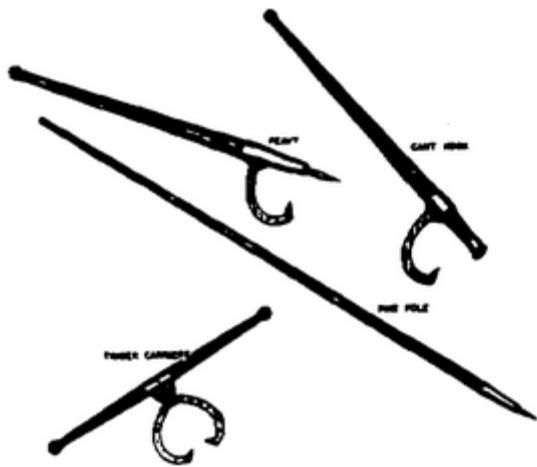
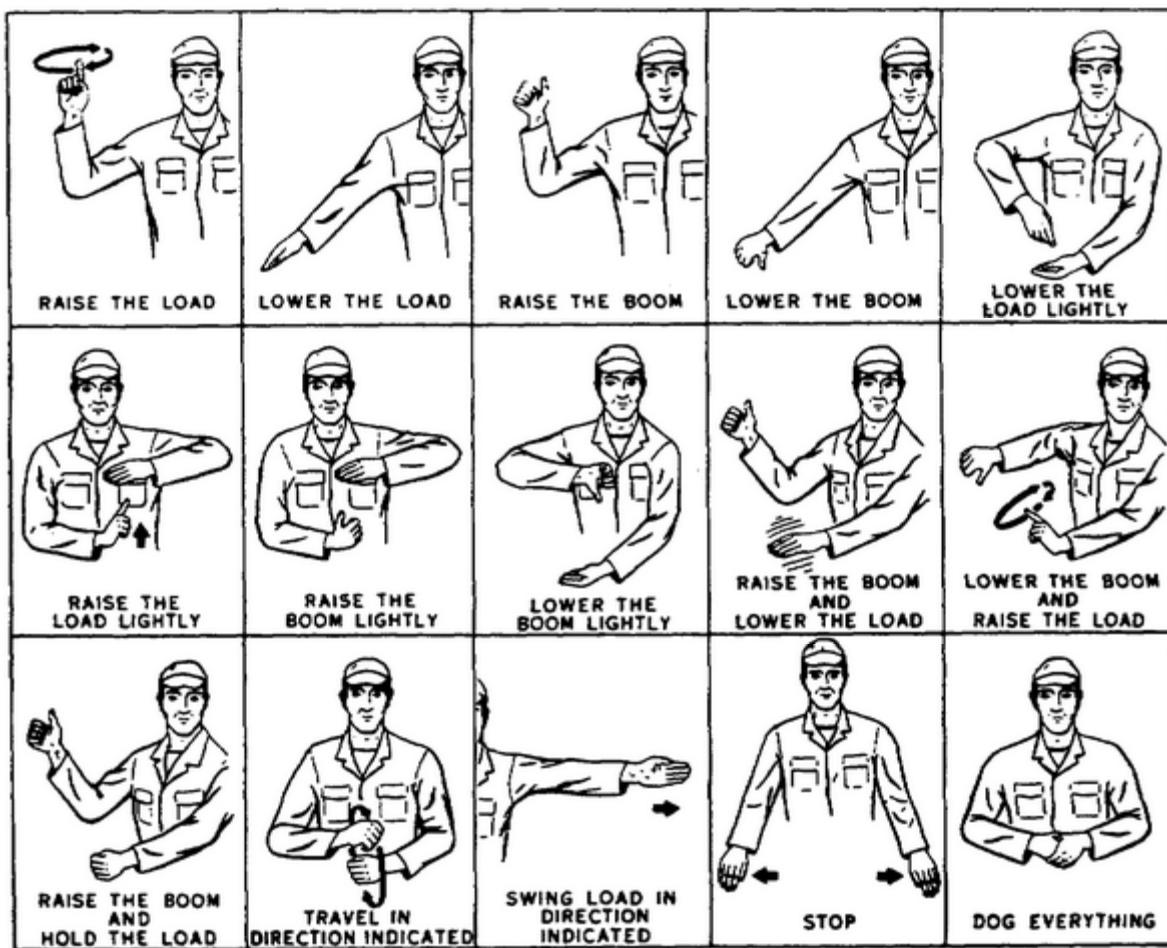

Figure 47. Logger's tools.
Figure 48. Standard crane signals.
**8-19. Special Tools Needed.** Since you cannot manhandle all of the heavy timbers you will be using to build waterfront structures, special tools are used to move and place these timbers. They are known as logger's tools and consist of peavys, cant hooks, timber carriers, and pike poles. The peavy and cant hook are lever type tools and are primarily used to roll timbers. Timber carriers are considered two-man tools; they are primarily used to pick up and/or carry timbers. Pike pole are used to hold or steady timbers while they are being placed. These tools are shown in figure 47. Although the cane cannot be considered a special tool, we include it here because it is used to raise and lower heavy timbers, such as are used in the building of waterfront structures. Normally, two men are assigned to the crane: the operator, and the helper. The helper drives the crane carrier (truck), hooks and unhooks loads, and signals the operator when to lift and lower the load and where to position the load. Standard signals are used for these purposes. You will not be called upon to operate the crane; but there will be times when the crane helper is not available, and at such times you will probably have to help the crane operator with the signals. You will probably be working with the standard crane signals, illustrated in figure 48. Study and learn the signals thoroughly, because if you give the crane operator an incorrect signal, it could cause an accident that would damage some very expensive equipment. Remember, after the heavy timbers have been moved and placed, they must be leveled properly. The carpenter's level, which you learned about in Memorandum 531, is the tool used for this purpose.